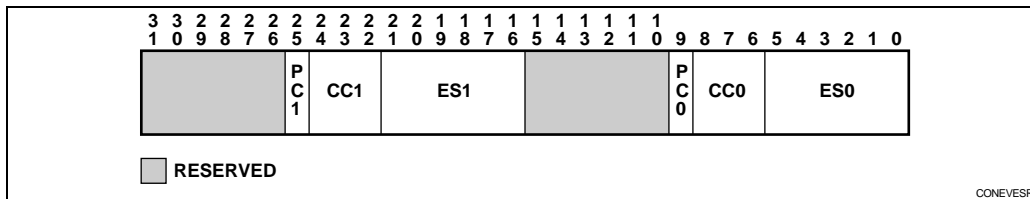

Figure 33-6. Control and Event Select Register
A 32-bit Control and Event Select Register (CESR) is used to control operation of the programmable counters and their associated pins. Figure 33-6 depicts the CESR. For each counter, the CESR contains a 6-bit Event Select field (ES), a Pin Control bit (PC), and a three bit control field (CC). It is not possible to selectively write a subset of the CESR. If only one event needs to be changed, the CESR must first be read, the appropriate bits modified, and all bits must be written back. At reset, all bits in the Control and Event Select Register are cleared.